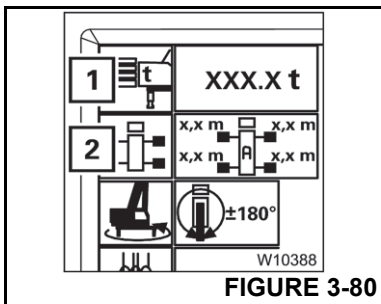

FIGURE 3-80
Press the F1 button (1) (Figure 3-80) once, symbol turns grey.